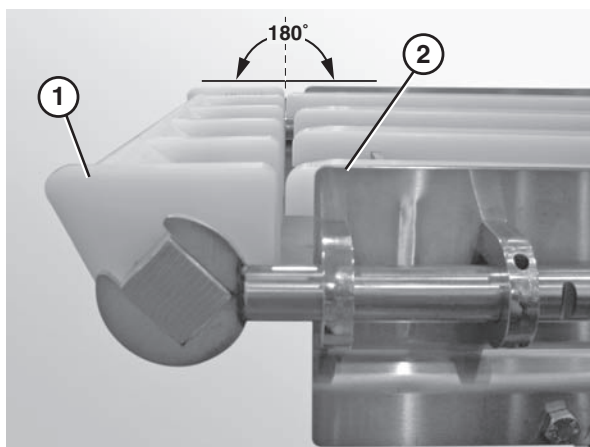

Figure 15
3. Ensure that the nose bar pucks (Figure 15, item 1) are in line with the conveyor frame (Figure 15, item 2).